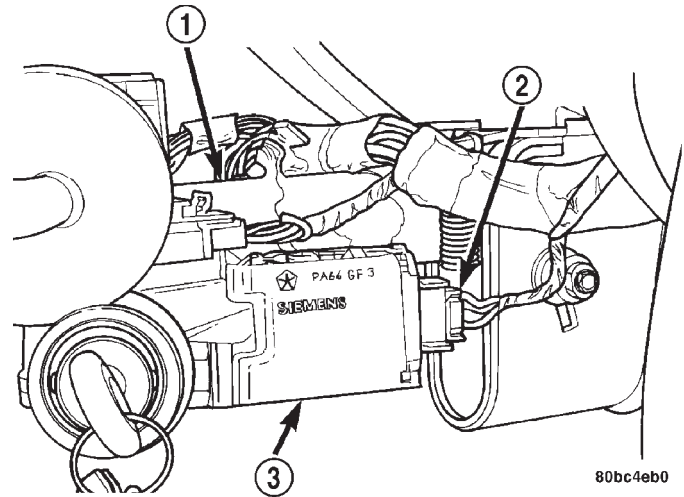

Fig. 1 Sentry Key Immobilizer Module (SKIM) Location
The Sentry Key Immobilizer Module (SKIM) (Fig. 1) contains a Radio Frequency (RF) transceiver and a central processing unit, which includes the Sentry Key Immobilizer System (SKIS) program logic. The SKIS programming enables the SKIM to program
The SKIM transmits and receives RF signals through a tuned antenna enclosed within a molded plastic ring formation that is integral to the SKIM housing. When the SKIM is properly installed on the steering column, the antenna ring is oriented around the circumference of the ignition lock cylinder housing (Fig. 1). This antenna ring must be located within eight millimeters (0.31 inches) of the Sentry Key in order to ensure proper RF communication between the SKIM and the Sentry Key transponder.